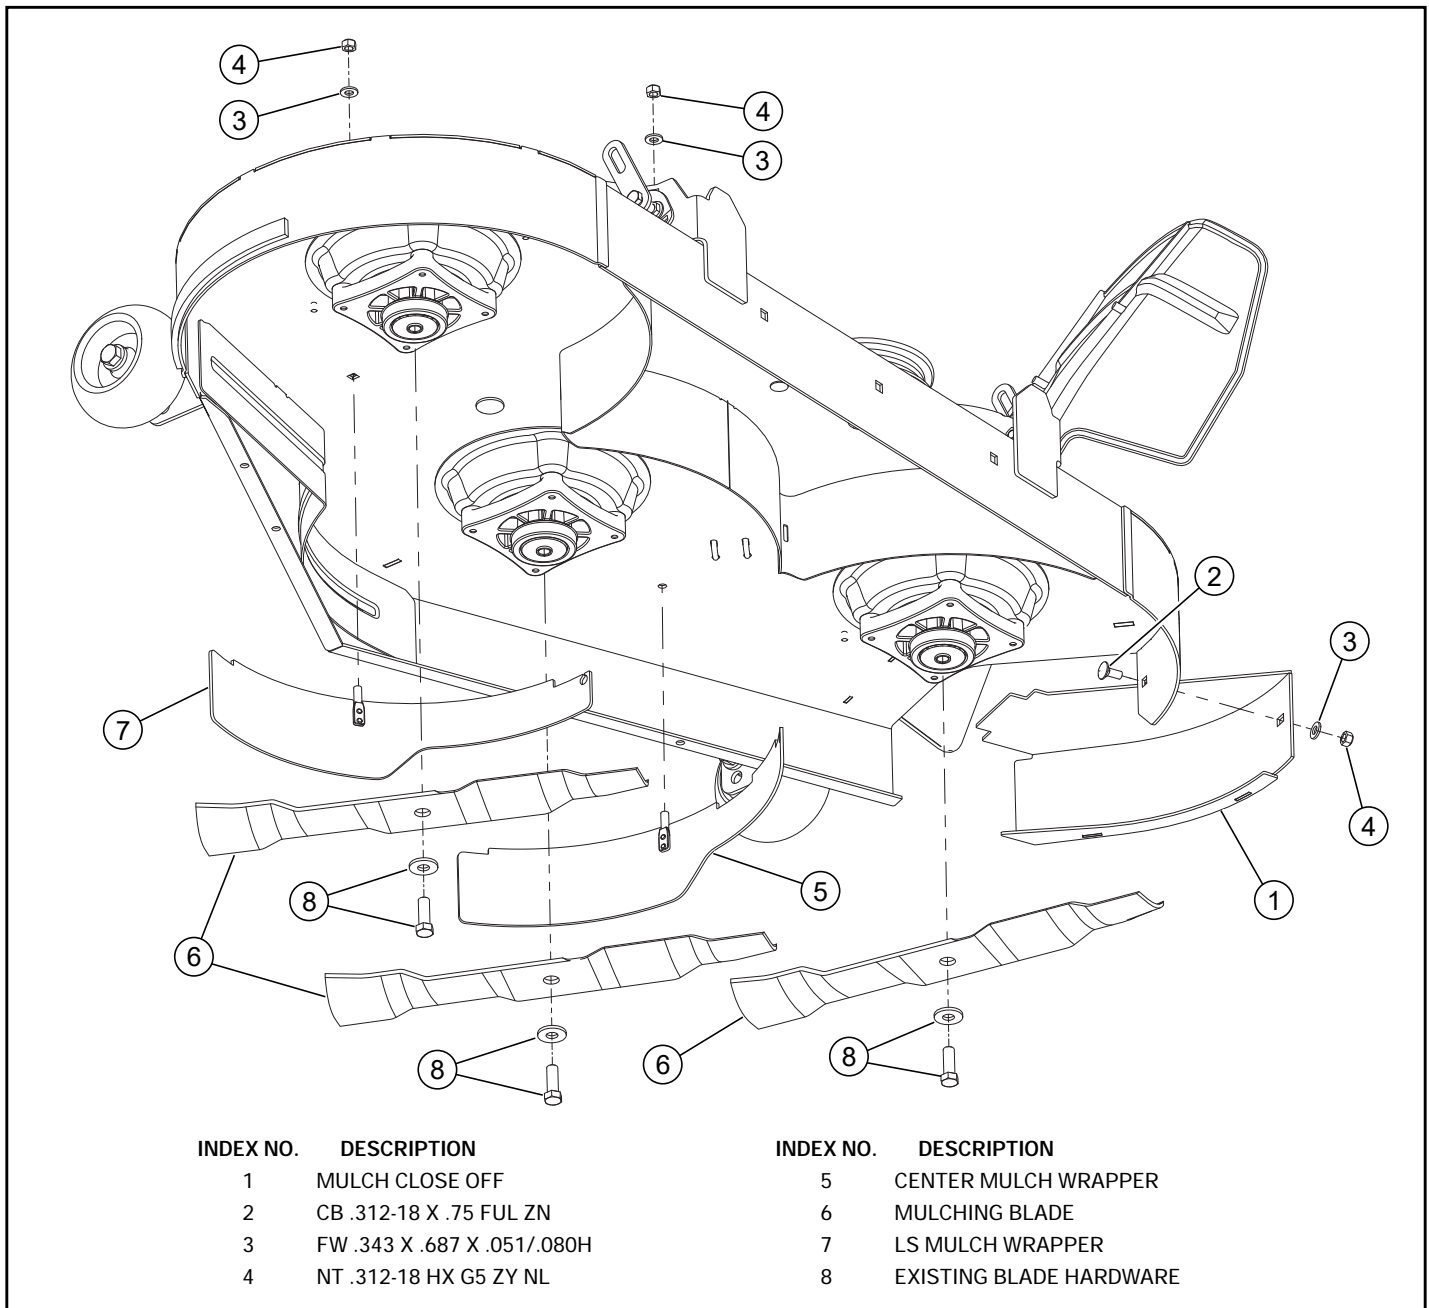
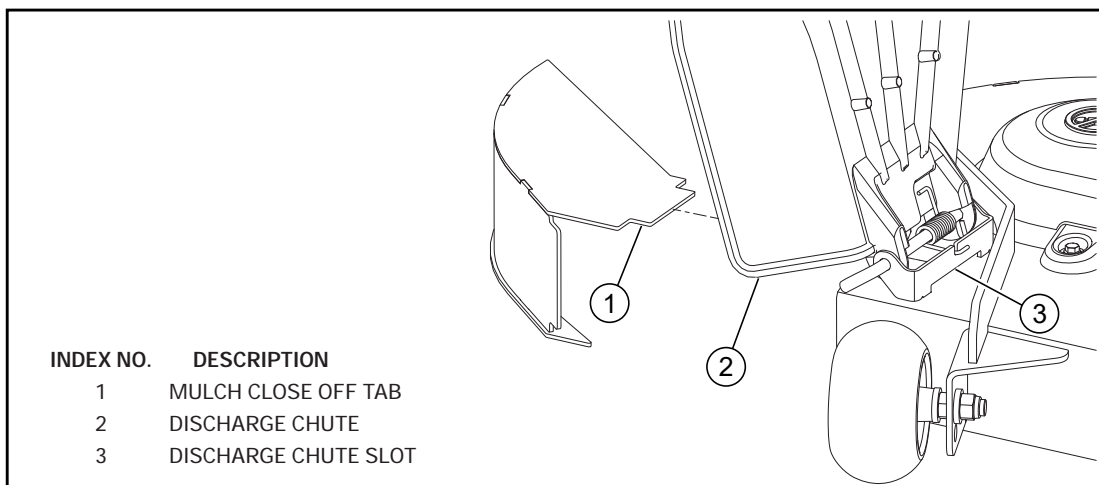

FIG. 3
FIG. 4
5. Install the LS mulch wrapper and the center mulch wrapper as shown. Fig. 3
6. Raise the deck discharge chute up. Insert the tab of the mulch close off into the slot of the discharge chute bracket. Secure the mulch close off with the hardware provided. Fig. 3 & Fig. 4
7. Install the mulching blades on the spindles using the existing blade hardware. Torque bolts to 48 ft-lbs. (65 N•m) when installing blades. Fig. 3